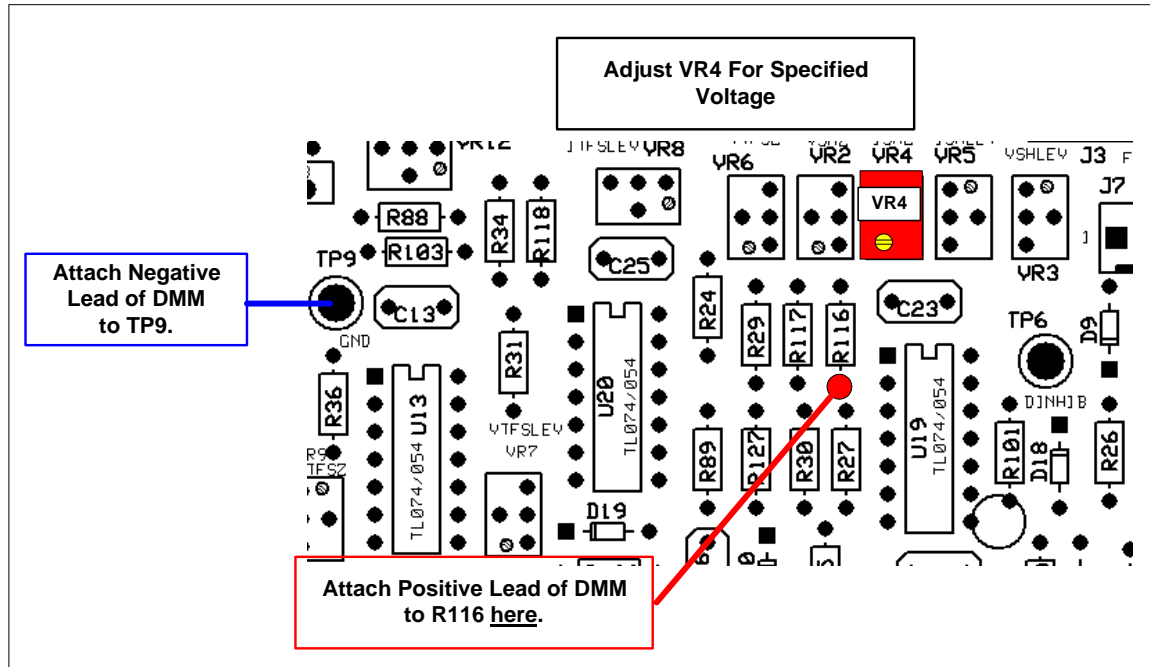

Figure 9-10: Initial Zero Voltage Calibration
3. Connect the positive lead of the DMM to the end of R116 indicated in **Figure 9-10**.